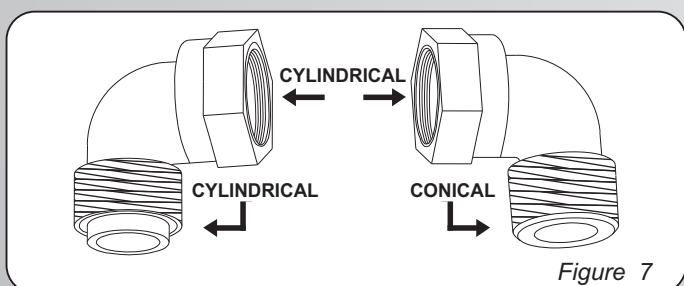

Figure 7
- Insert on hexagonal spanner (7 mm) into the burner support (Figure7)